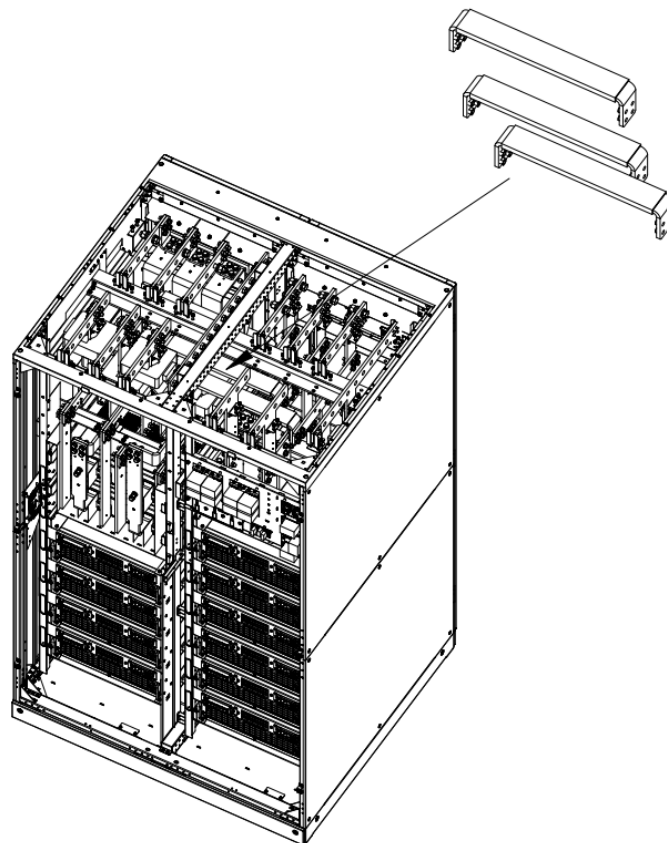

Figure 3-11 Non-detachable common input kit
2. The main and side sources are not removable. To use this solution, you need to install the main and side sources kit at the factory or do not install the main and side source kits. The main and side sources kits cannot be removed or installed during later use, as shown in Figure 3-11 shown.